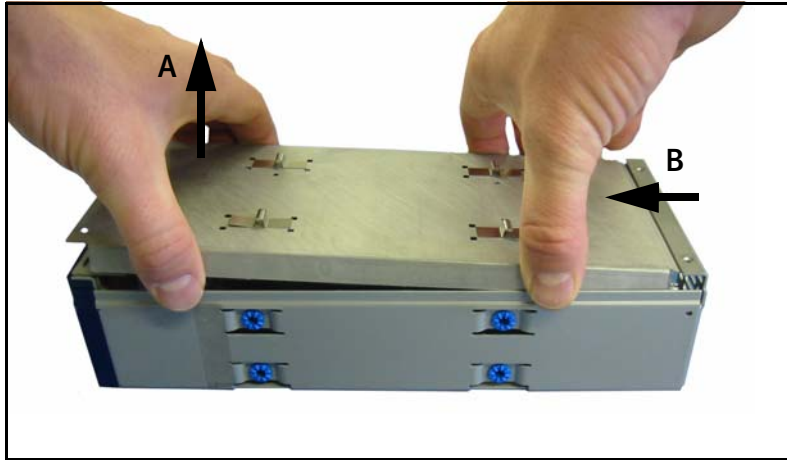

Figure 3-5 Removing the ESD panel (Silver media pack shown).
4. Remove the electro-static discharge (ESD) panel (Figure 3-5) by lifting up first from the end with the overlapping tab (A), then sliding the panel out from the other end of the media pack (B).